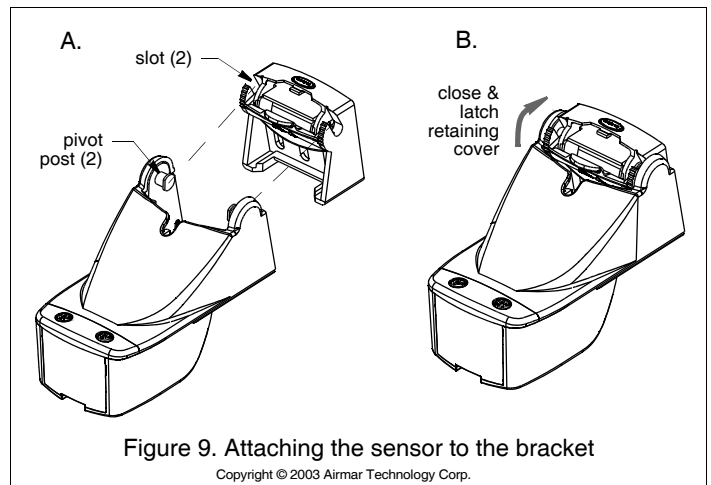

Figure 9. Attaching the sensor to the bracket
2. Insert the sensor's pivot posts into the slots in the top of the bracket (see Figure 9). Push down until the posts click into place.